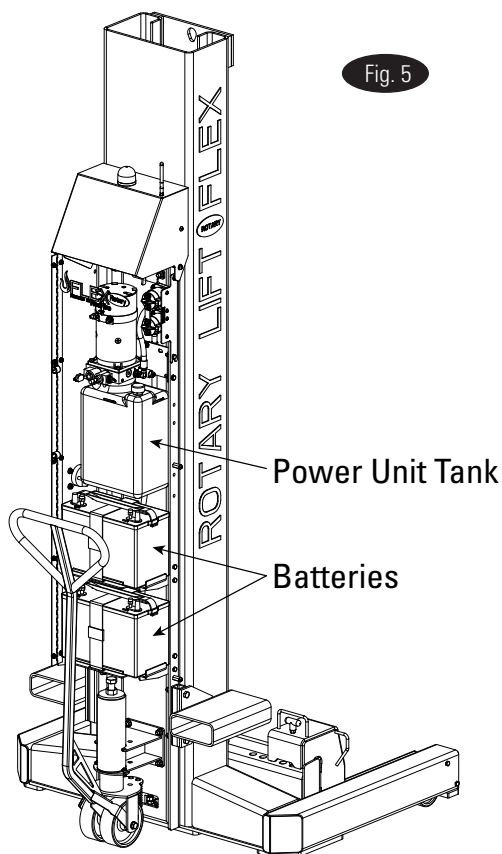

Fig. 5
3. Open power unit cover by removing the 3x M8 BHCS (Button Head Cap Screw). Fill power unit tank with ISOVG32 hydraulic oil, Fig. 5. Tank capacity is approximately 10 - 12 quarts depending on model. Fill until fluid is to full mark on side of the tank. Short filling may cause vapor lock to occur. Filling to line when column raised will result in oil coming out of cap when lowered. **NOTE** See Bleeding Column Cylinder pg. 20.
4. Mount two batteries in location shown, Fig. 5. Deep cycle marine batteries are standard and should be used, unless shop plans to keep column plugged in while in operation, in those shops AGM (Advanced Glass Mat) Batteries are recommended.